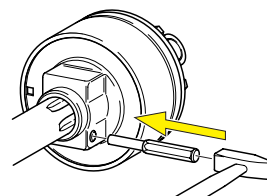

Fig. 4-51
2. Use a hammer and punch, if needed, to moderately hit the end of clamping cone/retaining bolt, as shown. (FIG. 4-51)